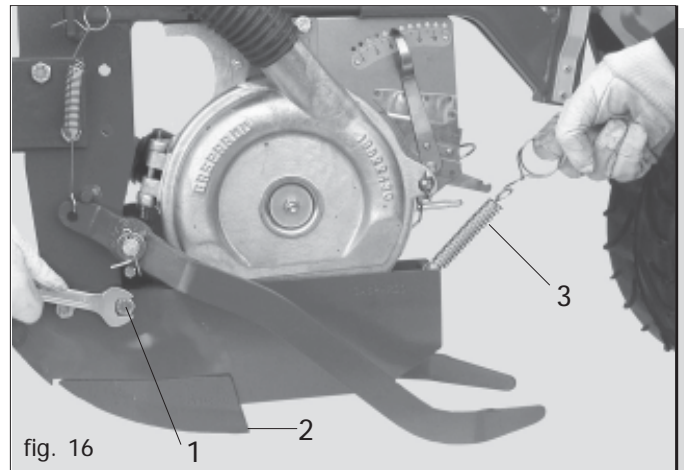

fig. 16
- 2) If fitted, remove the antibounce bolt (1 Fig.16);
- 3) Unhook the lister (2 Fig.16) by removing the spring (3);